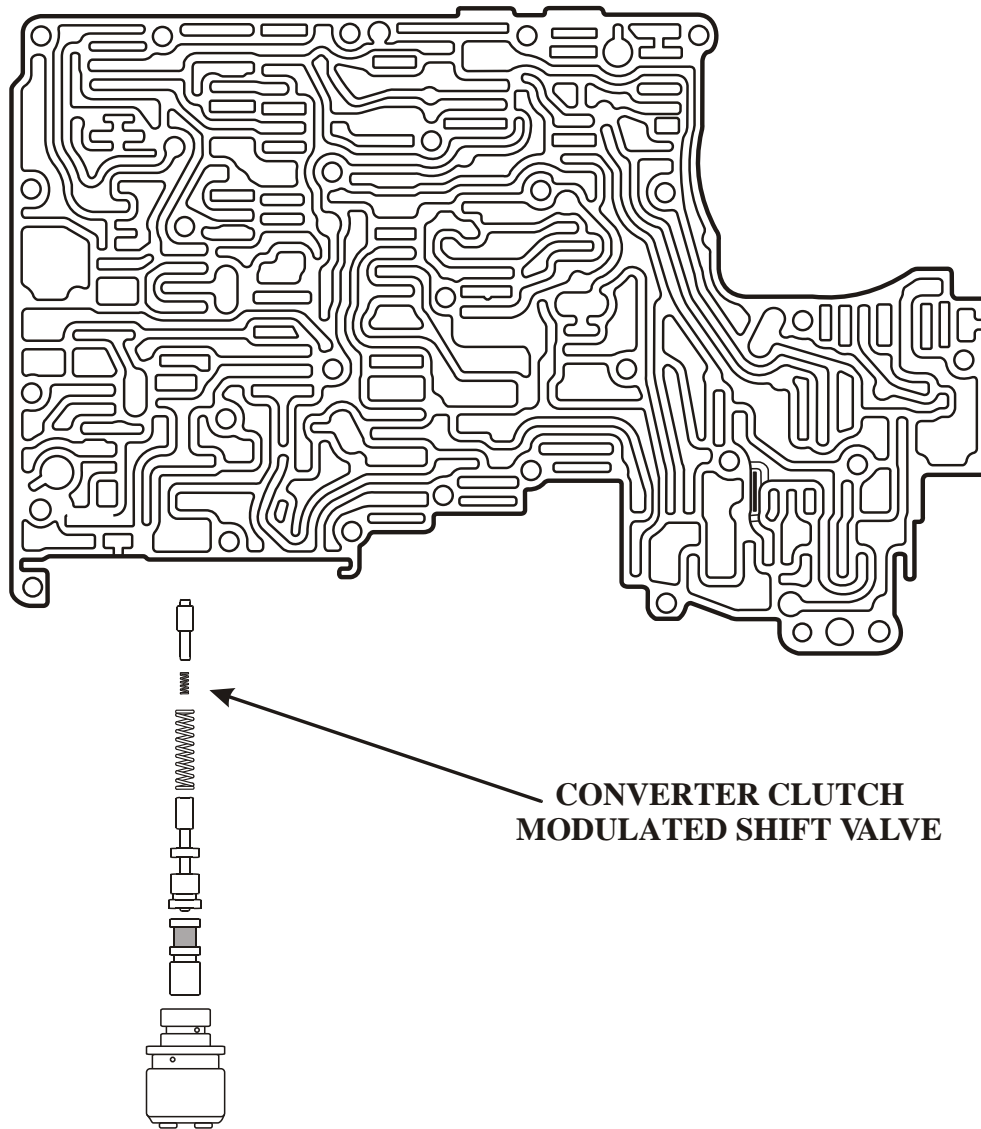

Figure 4
- 3) Replace the converter clutch shift valve spring with a stronger spring. This spring weighs about 5 lbs. in single solenoid valve bodies, and about 2 lbs in double solenoid valve bodies. (See Figure 4. Increase the tension in double solenoid valve bodies by 2 - 2 1/2 lbs. to about 4 1/2 - 5 1/2 lbs. maximum total weight.